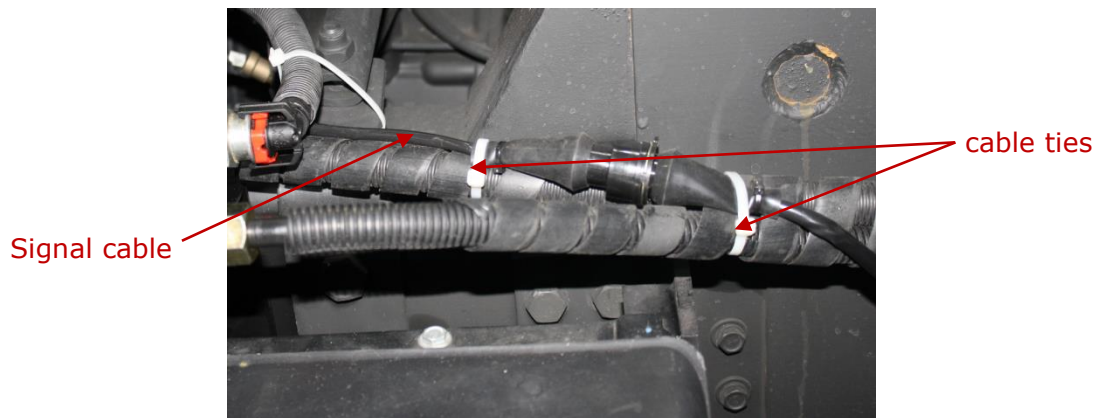

Figure 33 — Laying DUT-E AF signal cable
- 5) It is **strongly recommended** to lay signal cable together with standard electrical Vehicle wiring with mandatory cable ties fixing of every 50 cm, at a positive ambient temperature (see figure 33).